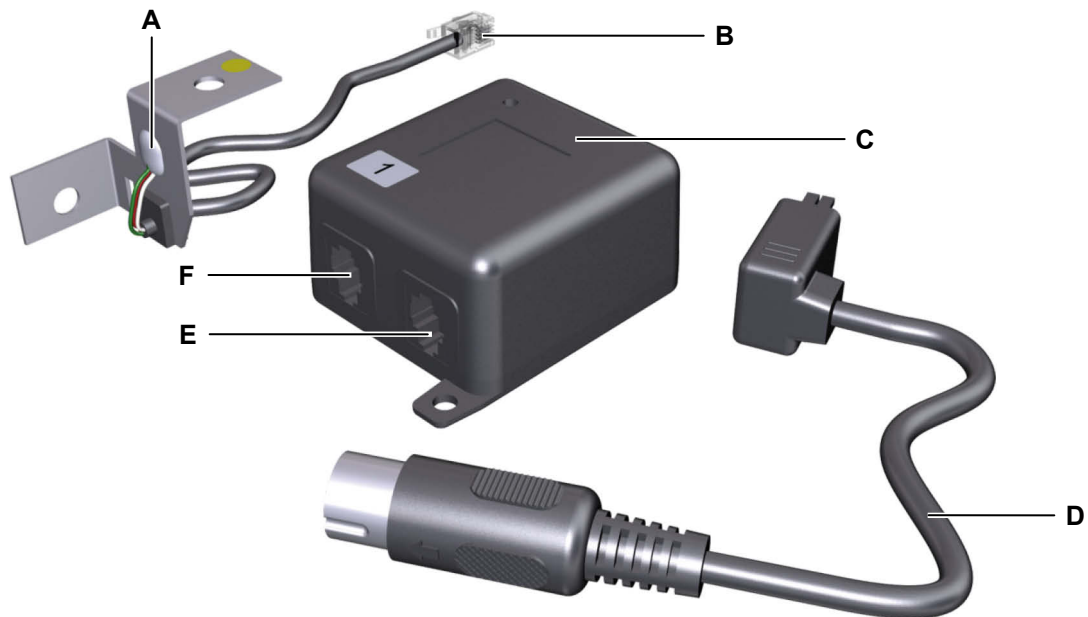

Figure 34 Sensor unit
- The sensor is attached to both the table frame and the tabletop. The contact point with the tabletop is marked with a yellow dot, as shown in Figure 34.
5 Connect the sensor unit's cable to the processor (port F in Figure 34).
6 If a second sensor is to be connected: Connect the second sensor unit's cable to the processor (port E in Figure 34).